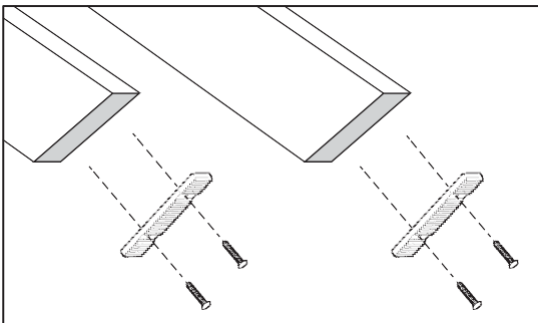

FIGURE 11
E. Install rubber tread to bottom ends of rail using 1" screws provided. Drill 1/16" pilot holes into wood prior to installing screws to prevent splitting of rail (Figure 11).